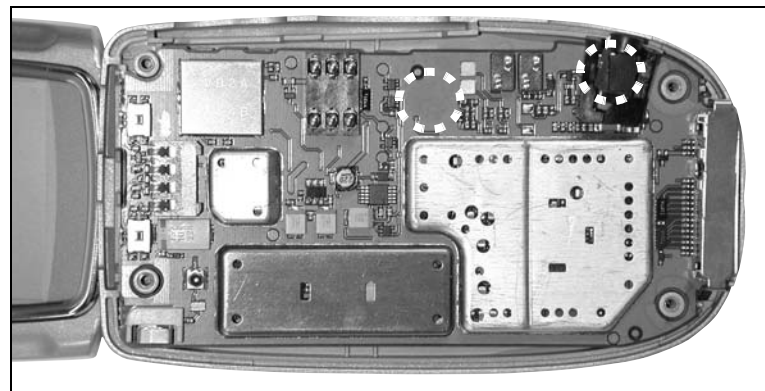

Figure 7-21.
5. Gently orbit and press Main and Controller boards at Audio Jack until connector is fully seated (see Figure 7-21).